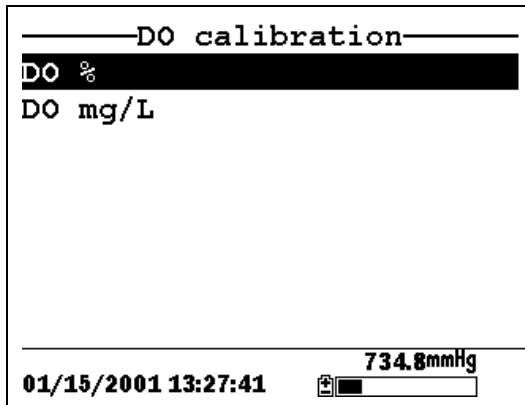

Figure 6.7 DO Calibration Screen
- 10.** Press **Enter**. This returns you to the DO calibration screen, See Figure 6.7 DO Calibration Screen.
10. Press **Enter**. This returns you to the DO calibration screen. See Figure 6.7 DO Calibration Screen.